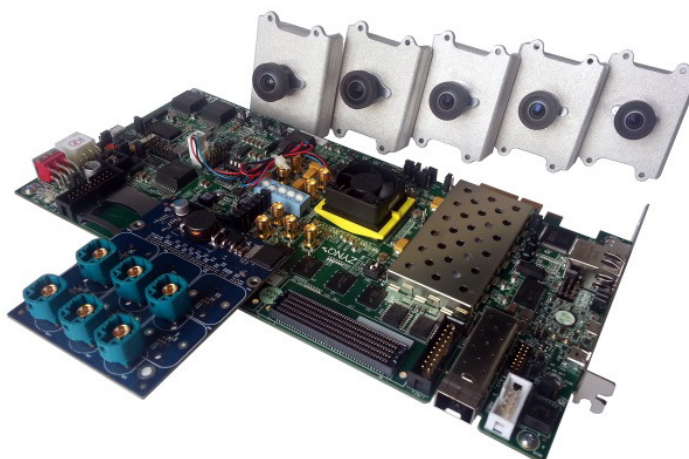

Figure 1: Xylon logiADAK Automotive Driver Assistance Kit
The logiADAK Automotive Driver Assistance Kit (Figure 1) includes the following hardware, which is utilized by reference designs provided in the logiADAK-VDF-SDSoC design framework:
Each Xylon video camera (Figure 1) includes the OmniVision OV10635 1-megapixel camera sensor that combines high-definition 1280x800p30 WXGA (HD) video with the color high dynamic range (HDR) functionality, LVDS serializer (transmitter) board, the Sunex DSL219 miniature fish-eye Wide FOV lens and a short cable lead with a connector. The logiADAK kit also includes the 5th camera equipped with the Sunex DSL947 Narrow Field of View (FOV) miniature lens, which is in Xylon ADAS demos used for the forward-looking collision avoidance and in-cabin driver status monitoring.